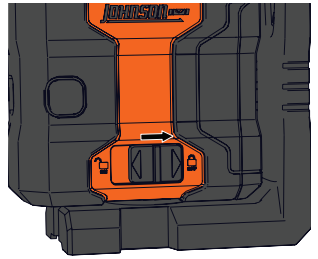

Figure 13
- Slide the locking compensator to the right to the locked (OFF)  position to power off the unit. (Figure 13)